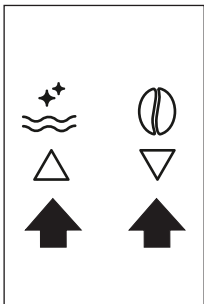
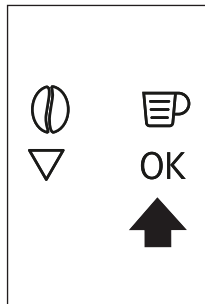

Fig. 9
Fig. 10
- ▶ To set the language, use the icons Δ ∇ (B7 and B8) to choose the required language (Fig.9). When the message "PRESS OK TO CHOOSE ENGLISH" is displayed, press the OK icon (B11) (Fig. 10) for 3 seconds until "ENGLISH INSTALLED" is displayed. If you set the wrong language, follow the instructions in the "Setting the language" section. If your language is not available, select one from those displayed. The instructions refer to the English version. Then follow the instructions displayed.
- ▶ Press the OK icon (B9) (Fig. 10) and after a few seconds a little water comes out of the spout.